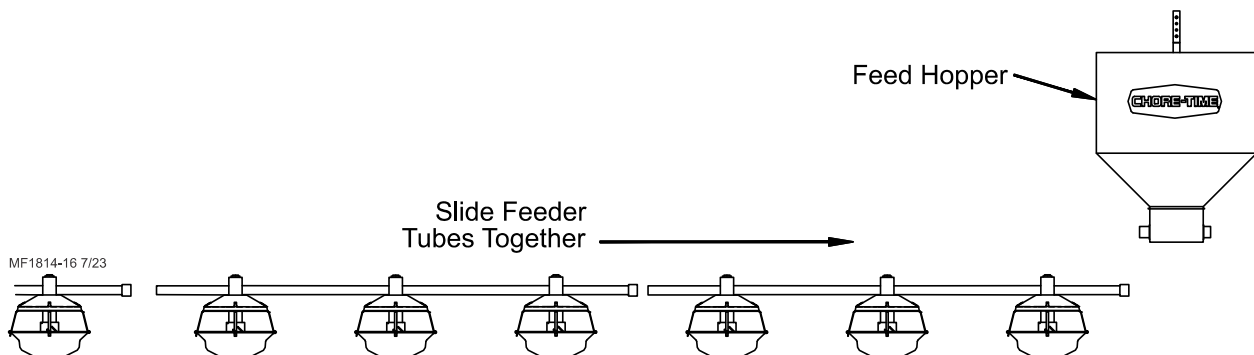

Figure 19. Feeder Line Assembly Procedure
1. The tubes should be laying end to end in approximately the final location of the line. The expanded end of each tube should be toward the hopper end of the line, **see figure 19**.